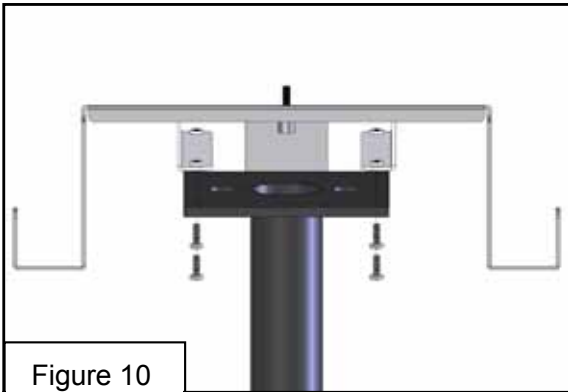

Figure 10
(Figure 10).
3. Attach the light source base onto the base plate (Figure 10) with the four (4) screws provided, using the Phillips head screwdriver provided.